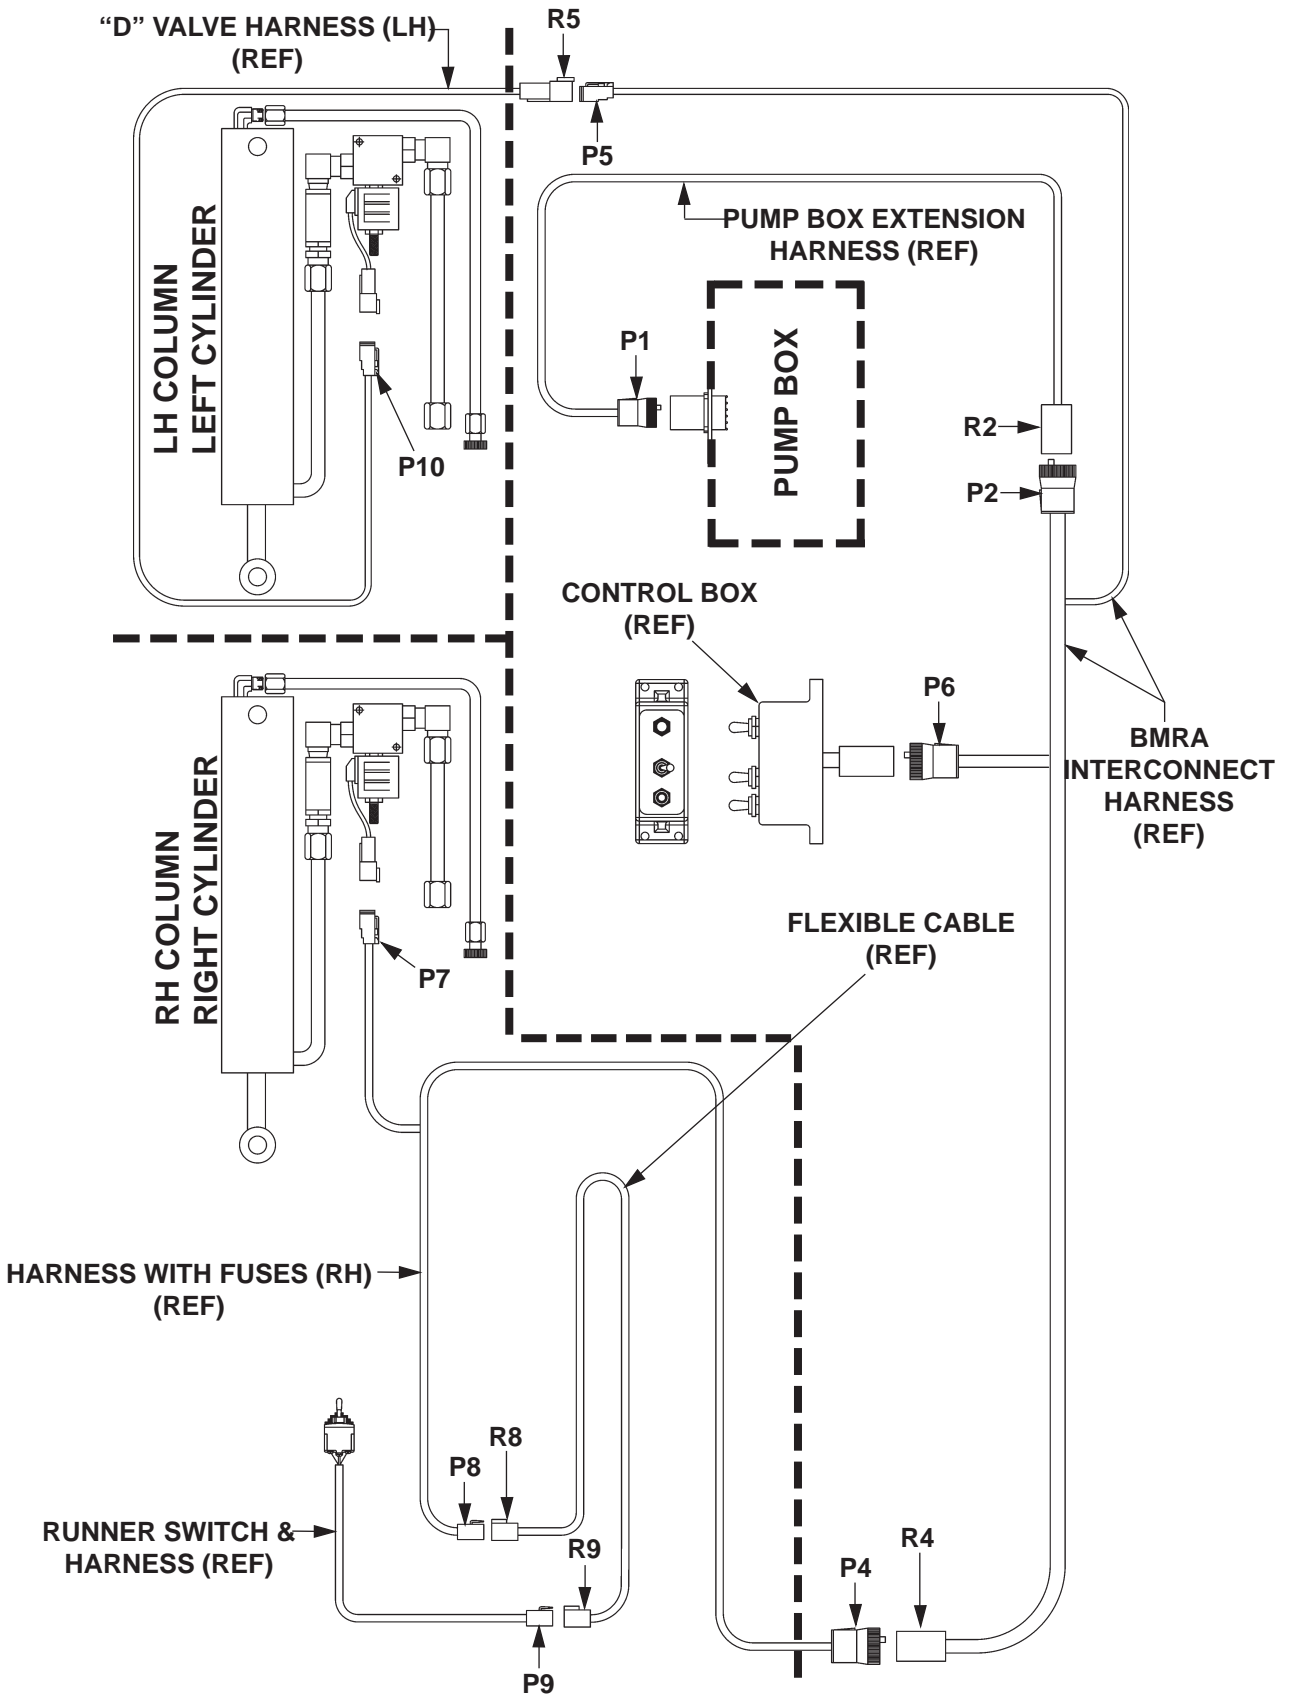

FIG. 47-1
5. Remove pump/motor assembly from reservoir (**FIG. 47-1**). Check if pump filter is clogged. Clean clogged filter and flush contaminated fluid from reservoir. Replace spin-on filter in pump box. Reinstall pump/motor assembly.